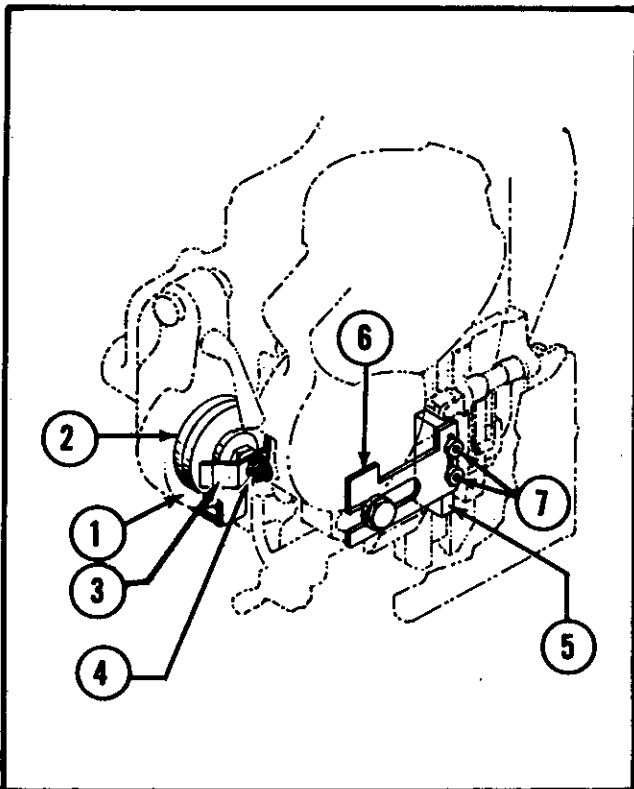

Figure 15 — Wire Feed Brake Tension and Wire Guide Adjustments (Long and Extra Long Draw Heads)
8. HOW TO ADJUST WIRE FEED BRAKE TENSION — Models BHL, BHX, BHOL and BHL485 Only (See Fig. 15)
9. HOW TO ADJUST WIRE GUIDE — Models BHL, BHX, BHOL and BHL485 Only (See Fig. 15)